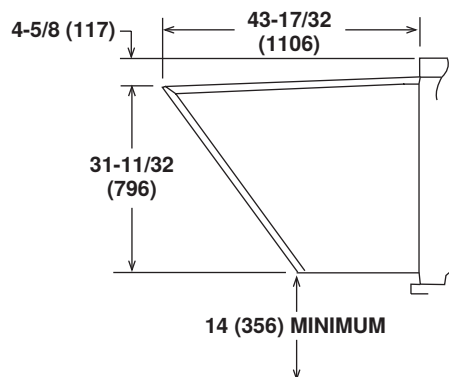

Figure 1. Outside Air Hood Dimensions (Refer to Table 2)
1. Ensure that unit location provides adequate clearance for the outside air hood (see Figure 1). Refer to Table 2 for air hood width, which is the same as the width of the cabinet.